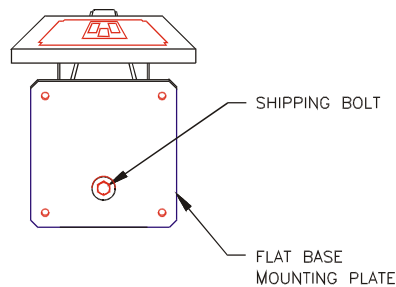

Figure 3. Removing the Shipping Bolt
To assemble the Vertical Wall Stand, refer to Figures 3 through 5.
2. Remove the shipping bolt located in the Flat Base Mounting Plate (see Figure 3).